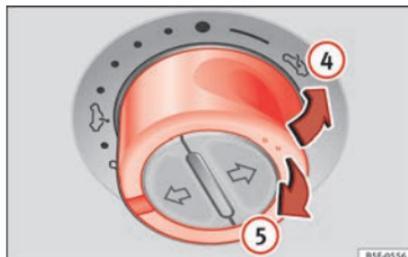

Fig. 14 On the interior roof lining: press the button and pull on it to raise and lower the sunroof.
- To tilt open: Push the switch to position » Fig. 14 (4). For an intermediate position, hold down the switch until you reach the desired position.
- Lowering: Pull the switch to position » Fig. 14 (5). For an intermediate position, hold down the switch until you reach the desired position.